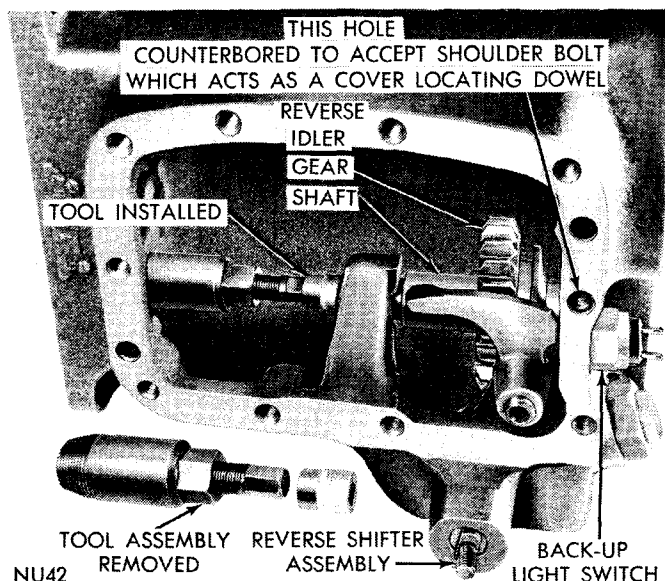

Fig. 23—Removing Reverse Idler Gear Shaft
(2) The reverse idler gear shaft is a very tight fit in the case. To remove, place a 7/16 socket (1/4 or 3/8 inch drive) on end of C-3638 Power Steering "Wormshaft Seal Remover" (Fig. 23).
(8) Install housing retaining bolts finger tight and shift through all gears to insure proper operation.
(9) Eight of the shift housing retaining bolts are shoulder bolts for accurately locating the mechanism on the transmission. One bolt shoulder is longer and acts as a dowel, passing through the cover and into the transmission case at center of rear flange (Fig. 23). Two bolts are standard, located at lower rear of cover. Tighten all bolts evenly to 15 foot-pounds.